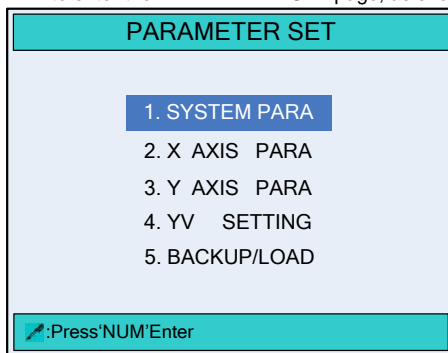

Figure 3-5 The **PARAMETER SET** page
Step 3 Move the cursor to parameter **mm/inch** or **中文/English**, enter the password **14789**, and press  to enter the **PARAMETER SET** page, as shown in Figure 3-5.